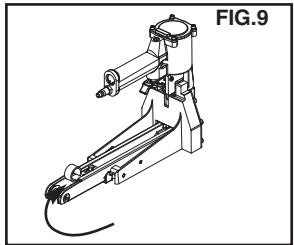

FIG.9
5. Slide the pusher from position 1 to the rear of the staple stick (FIG.9).